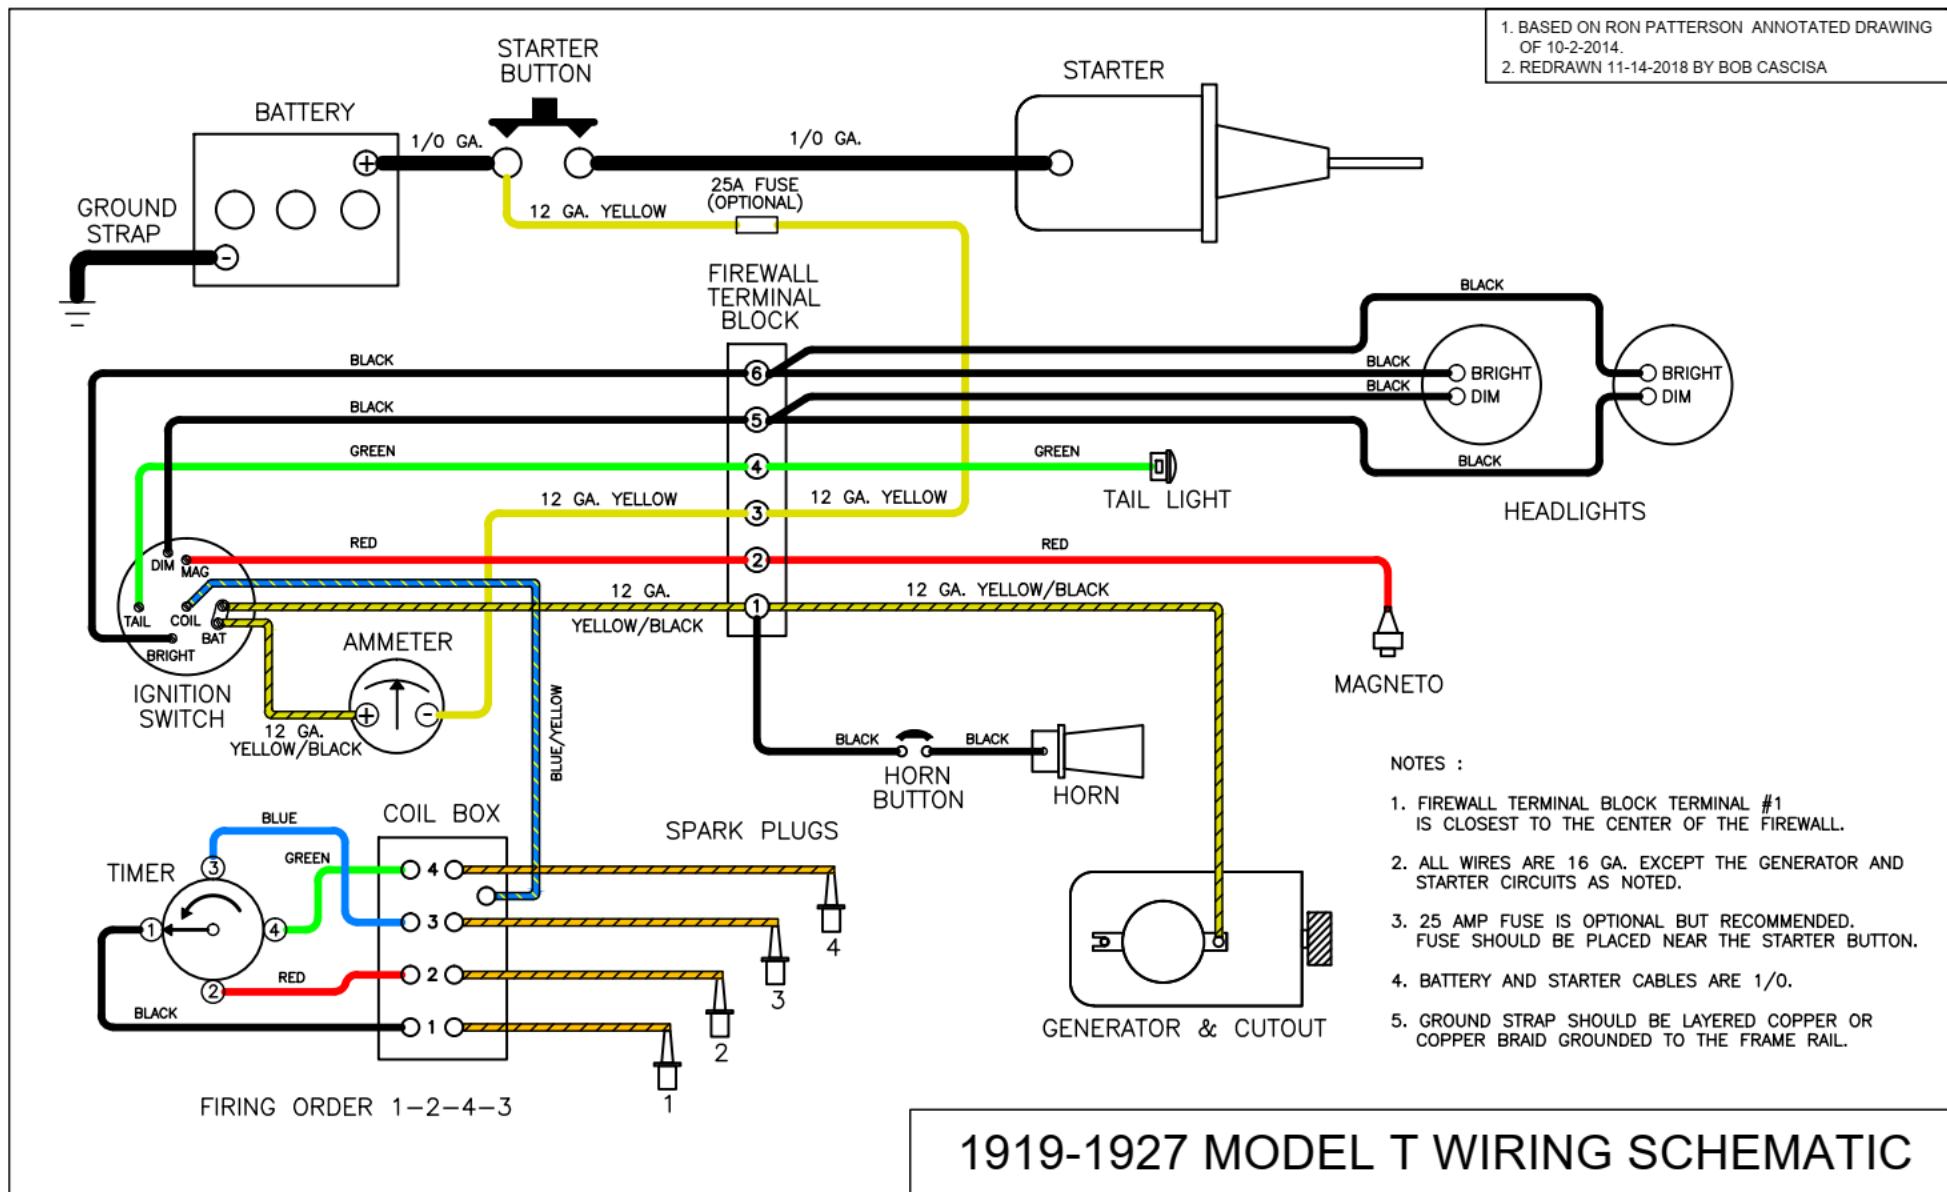

Figure 1. Correct Model T Ford Wiring Schematic
When working on Model T wiring it is important to be sure you are using a correct wiring schematic. Many commonly available wiring schematics are incorrect, particularly in the charge/discharge circuit wiring. Additionally, many reproduction dash Ammeters do not have their polarity clearly marked + or – on the terminals and as a result is commonly wired incorrectly. These wiring errors can allow the Ammeter to show only discharge current and no charge current or vice versa. I recommend you use the wiring schematic in Figure 1. This wiring schematic is electrically correct for the starter-generator equipped Model T.
Figure 1. Shows all electrical wiring including the details of the Generator, starting motor, ignition, horn and lamp load circuits. The charging system has only five wires and is designed to carry 20 amps of current. Originally there was no fuse.
- As you can see from Figures 1 and 3, there should be only one wire on each terminal of the Ammeter.